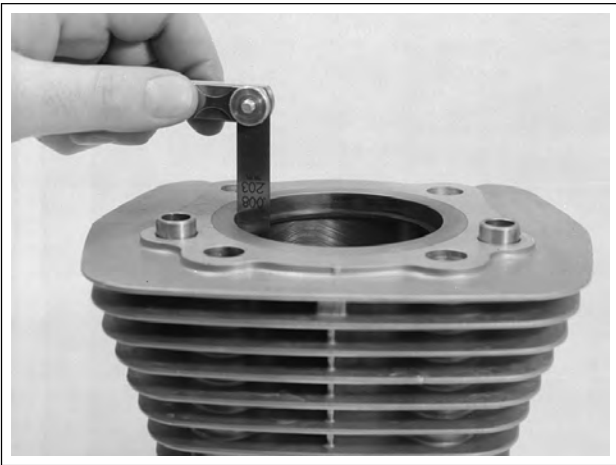

Figure 3-34. Measuring Ring End Gap
1. See Figure 3-34. Place piston in cylinder about 1/2 in. (12.7 mm) from top. Set ring to be checked squarely against piston as shown. Check end gap with thickness gauge. See 3.1 SPECIFICATIONS for tolerance.